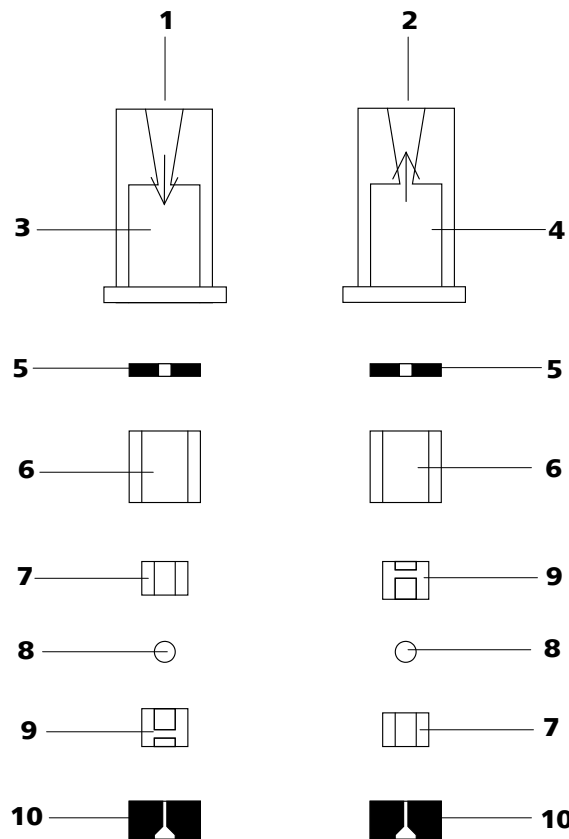

Figure 43 Components of the inlet valve and outlet valve
- The inlet valve and the outlet valve consist of the same, just differently arranged components (see Figure 43, page 81).
Reassemble valve components *according to figure 43, page 81*.
- Lay the other valve components above another in the correct sequence (*see Figure 43, page 81*).
If this is not the case, the valve has to be dismantled again and be assembled correctly (see *Figure 43, page 81*).